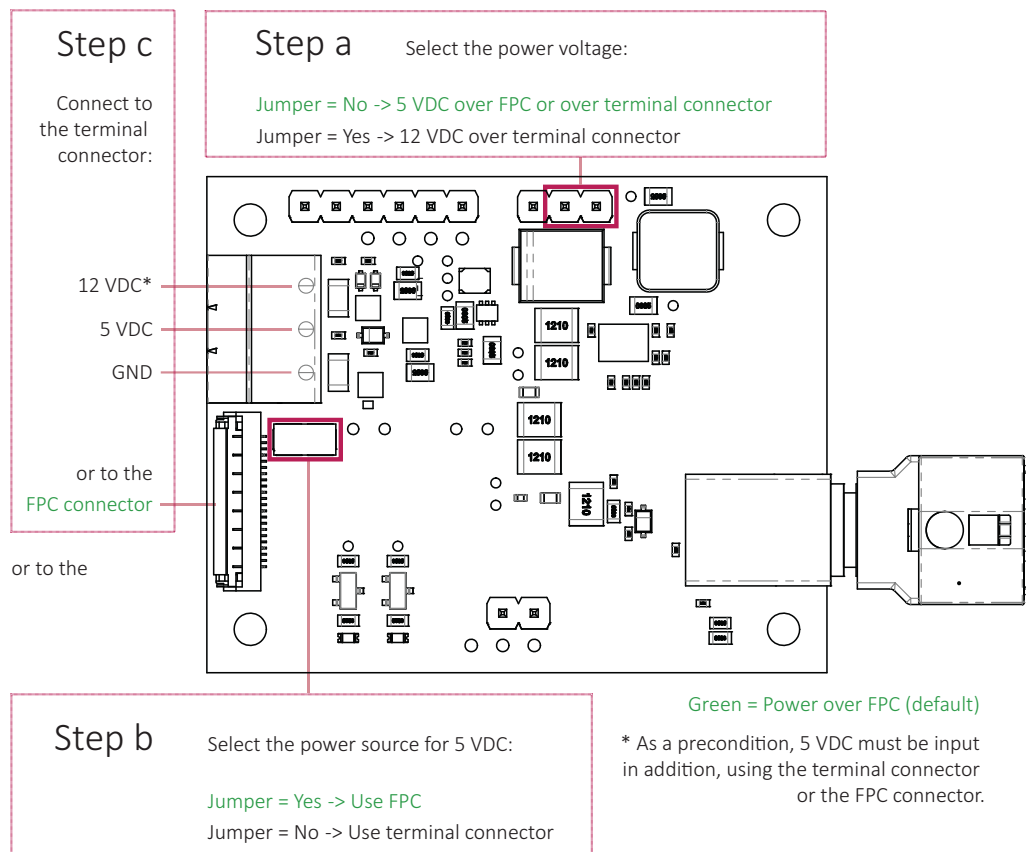

Figure 17: Connections and jumper settings for power supply
2. Set the jumpers for Step a and Step b as shown in Figure 17.
For **power over the terminal power connector**, connect the Phoenix Contact MC 1,5/3-ST-3,5 connector as shown in Figure 17 for Step c.